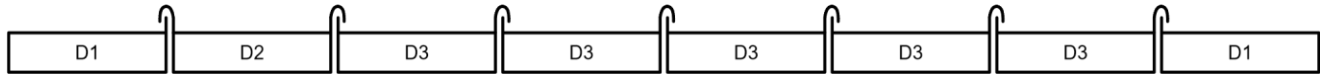

FIG. 3
14. Position the “D2” and “D3” (roof) middle panels (Fig. 3) between the “D1” (roof) end panels and set them in place. Place the “D3” (roof) panels one at a time, and then fit the “D2” (roof) panel into the final position.